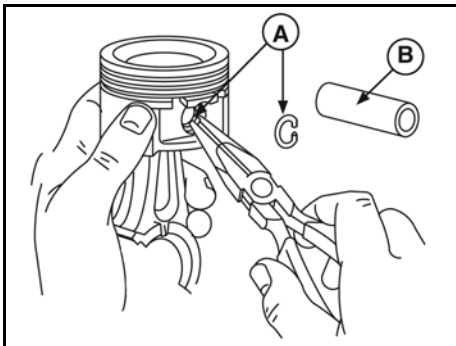

Figure 2
2. Remove the two retainer pins (A, Figure 2) with needle nose pliers.
3. Slide out pin (B) from opposite side and remove connecting rod from piston.